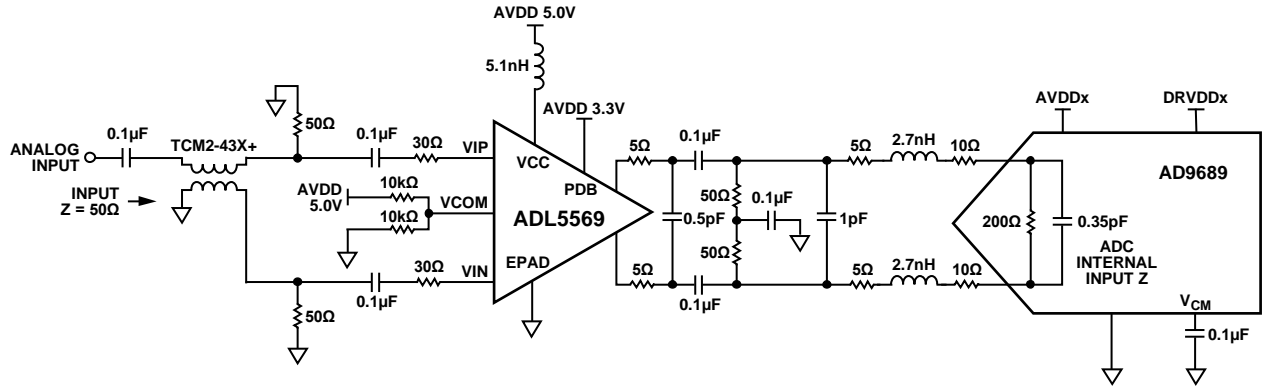

Figure 49. Wideband 3.2 GHz Bandwidth AC-Coupled ADC Interfacing Example: ADL5569 Driving the AD9689
A wideband data acquisition system using the ADL5569 together with the AD9689, a dual 14-bit ADC, was developed and tested as shown in Figure 49 for ac-coupled applications. The amplifier output common-mode voltage is set to $AV_{DD}/2$ with the voltage divider formed by the two 10 kΩ resistors on the VCOM pin. However, the VCOM pin can be left open (with a decoupling capacitor as described in Table 4), because there is an internal divider to pull the node to $V_{CC}/2$ in such cases. The resistor capacitor (RC) filter after the amplifier works with the pole formed by the ADC input capacitance to attenuate the broadband noise and out of band harmonics generated by the amplifier. The RC filter also blocks sharp switching pulses, that is, charge injection from the ADC internal sampling circuitry, from reaching the amplifier outputs and creating nonlinear effects. An additional band-pass filter, specific to the system rejection requirements, is also needed in front of the ADL5569 amplifier to prevent